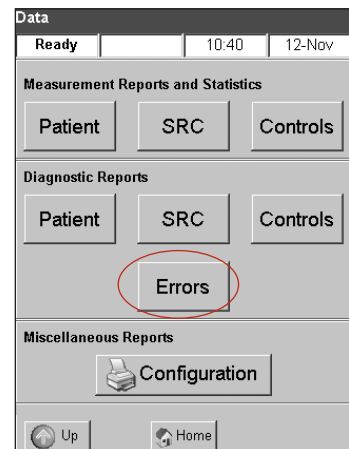

Figure J-8: Data screen > Errors button
2. In the Calibration Reports section, tap **Errors** (Figure J-8).